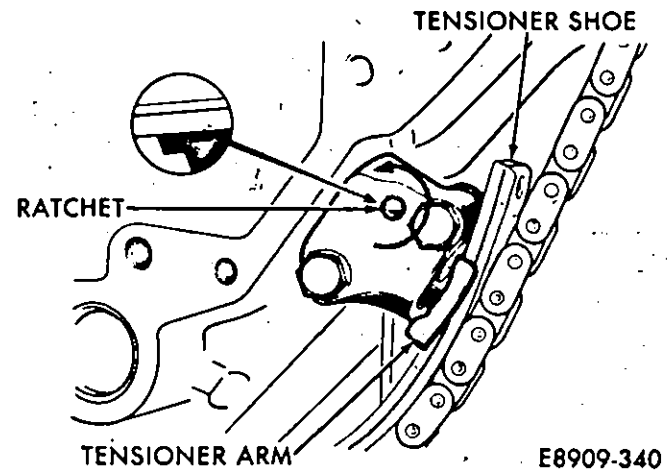

Fig. 18—Left Timing Chain Tensioner
(10) To install the left timing chain tensioner use a thin blade screwdriver to turn the ratchet counterclockwise. Then push the tensioner arm in. Position the tensioner over the filter and the tensioner shoe into the arm (Fig. 18).
(11) Tighten the mounting bolts to 6 N·m (53 in-lbs) torque.